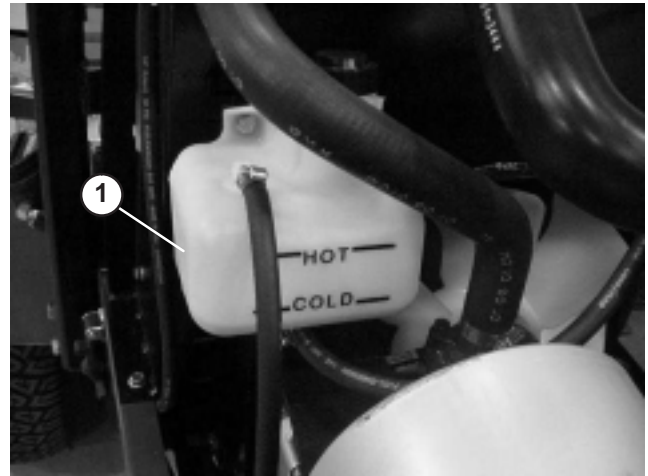

Figure 18
1. Check level of coolant in expansion tank (Fig. 18). Coolant level should be between the marks on side of tank.